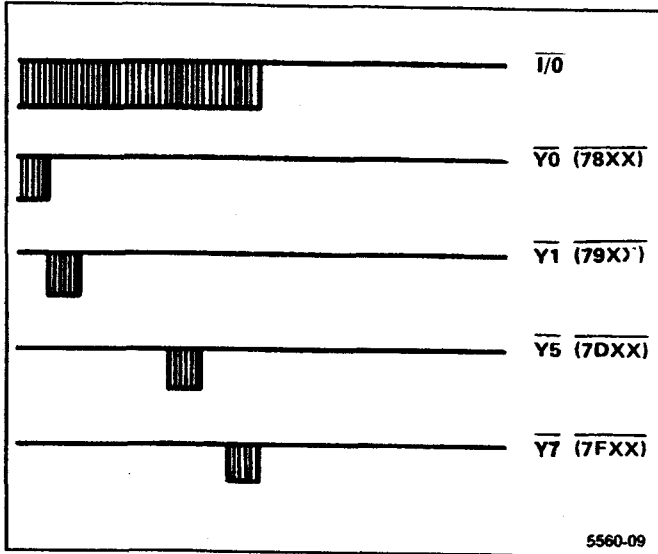

Figure 6-37. Chip selects Y0, Y1, Y5, and Y7 in relation to  $\overline{I/O}$ .
**Processor Address Decoder** — Address decoder U3035 on the Processor board decodes several chip-selects. Y0, Y1, Y5, and Y7 are shown in relation to the  $\overline{T/O}$  line in Figure 6-37.